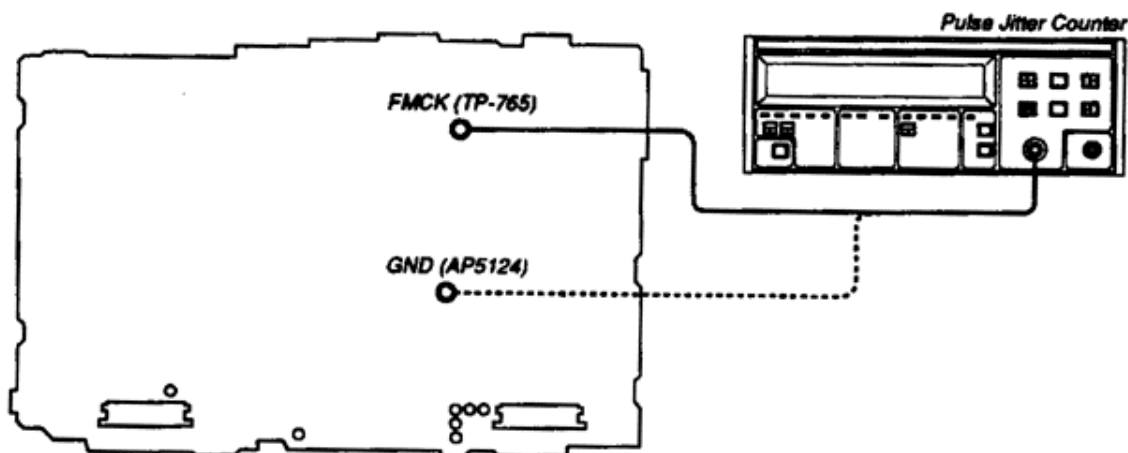

Fig. 5-2-10 Motor Jitter Measurement
- Connect BNC Cable (one end) of Pulse Jitter Counter to FMCK (TP-765) (ground for GND (AP5124)) on the Pin Board. (Refer to Fig. 5-2-10)